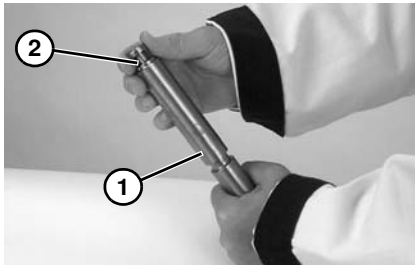

Figure 123
2. Inspect spindle (**Figure 123, item 1**). Replace if worn.
3. Slide bearing (**Figure 123, item 2**) onto spindle.